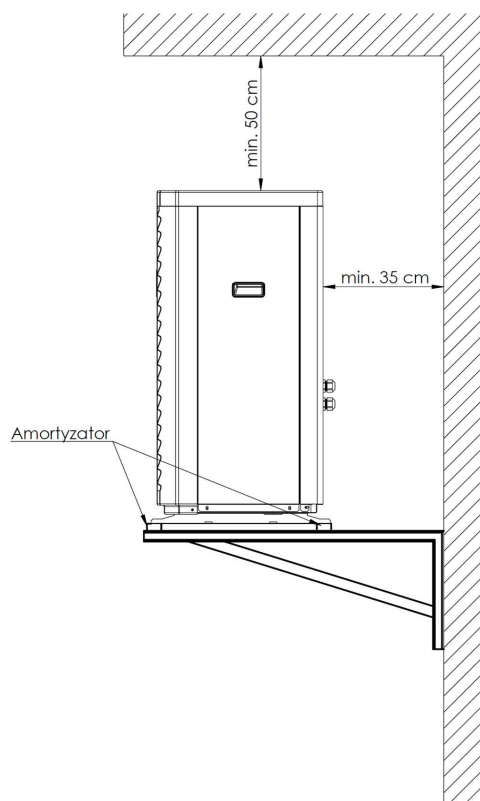

Figure 19 - Fixing the heat pump to the wall
a) Wall-hooked - Use the wall-mounting console as shown in Figure 19.